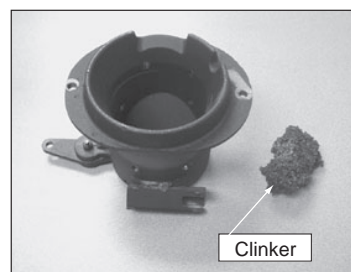

Figure 12.1 - Clinker
- b. Pull firepot cleaning rod OUT and IN a couple of times to help shake debris loose. **See Figure 12.1 on page 12.**